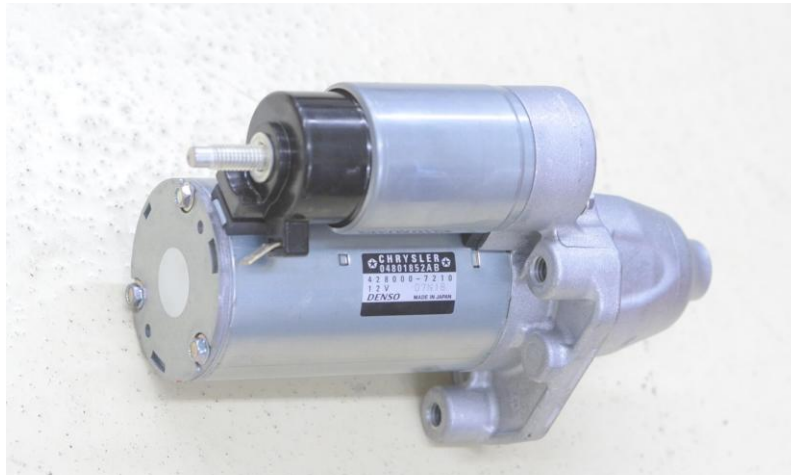

Figure 6 – Starter Motor
53. Remove and save the starter motor (Figure 6).